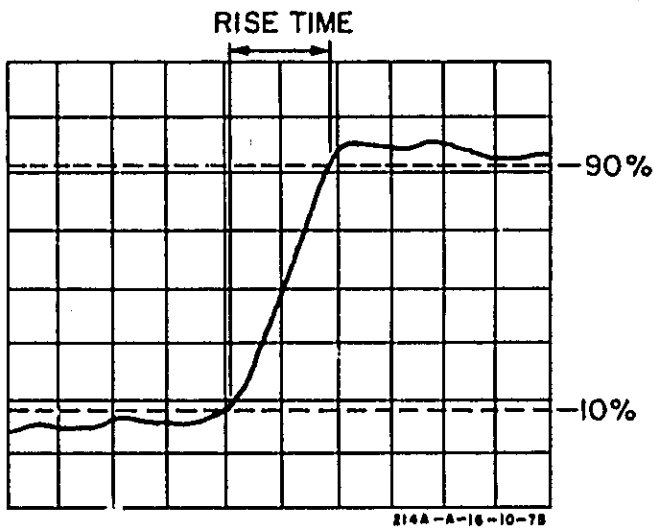

Figure 5-3. Positive Pulse Rise Time 10-V Amplitude
e. Adjust sampling plug-in gain for 8-cm display as shown in figures 5-3 and 5-4.